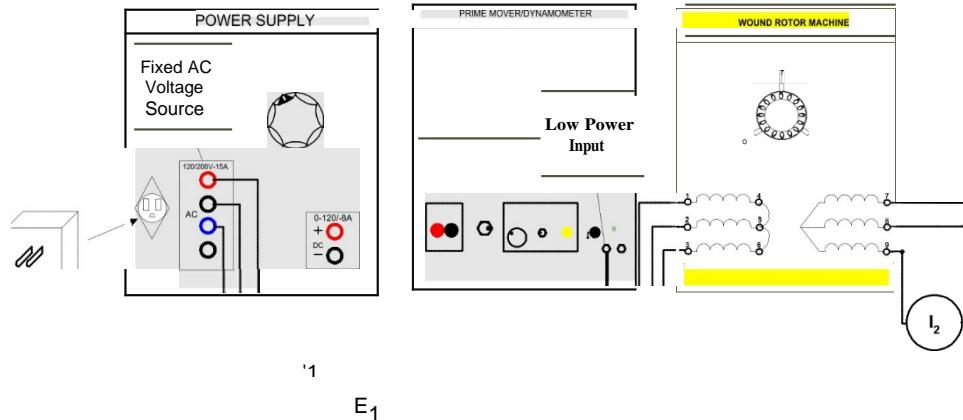

FIGURE 6. 10
Step 5: Connect the circuit shown in Figure 6.. Couple the wound rotor to the dynamometer with a timing belt. See appendix to see how the dynamometer works. ASK vOrR INSTRUCTOR FOR HELP IF YOU NEED IT.
- Step 1: Connect the circuit shown in Figure 6. Since the dynamometer and not the prime mover is needed, use the 120/24 AC Adapter and connect the output to the dynamometer's low power input.
Step 8: Connect the circuit shown in Figure 6. 10.